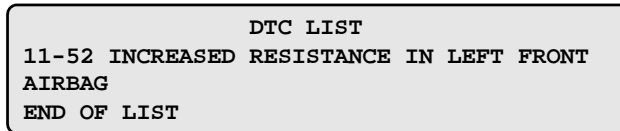

Figure 8-39 Typical SRS codes message
3. The Code List screen appears (Figure 8-39)